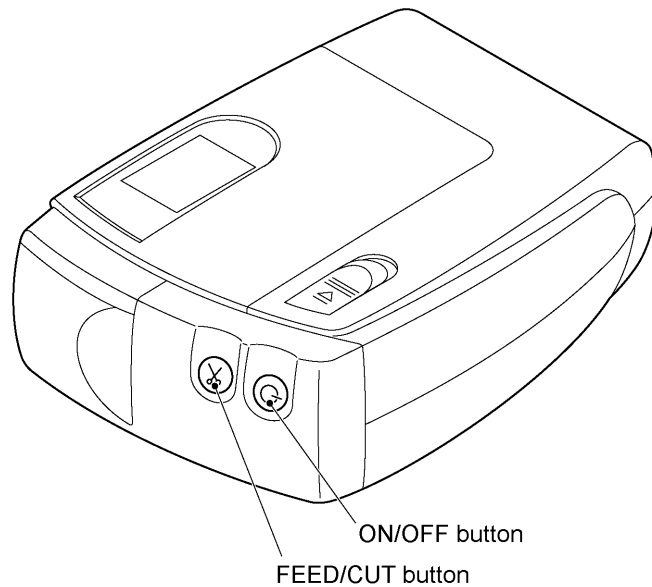

Fig. 1.1-2 Layout
| (2) Layout | See Fig. 1.1-2. |